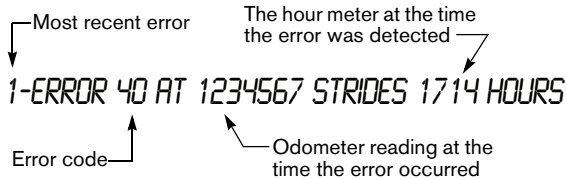

Figure 9: Error log
1. At the Precor banner, press and hold the RESET key for at least four seconds to view the error log. The most recent error recorded appears on the lower display. Refer to Figure 9.